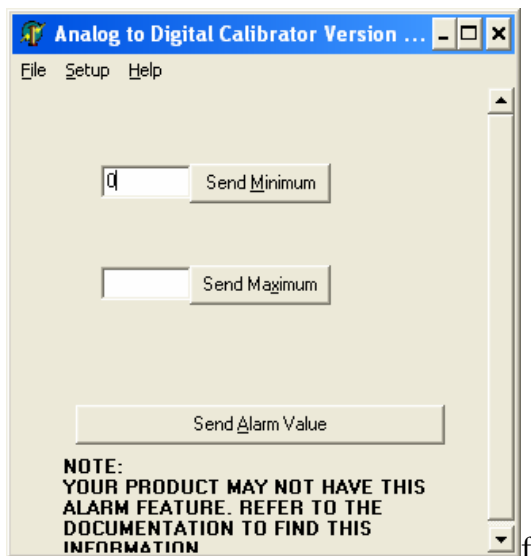

Figure 8
8. Type “0” in the “Send Minimum” field from the computer keyboard and click on the “Send Minimum” button.(See figure 8)